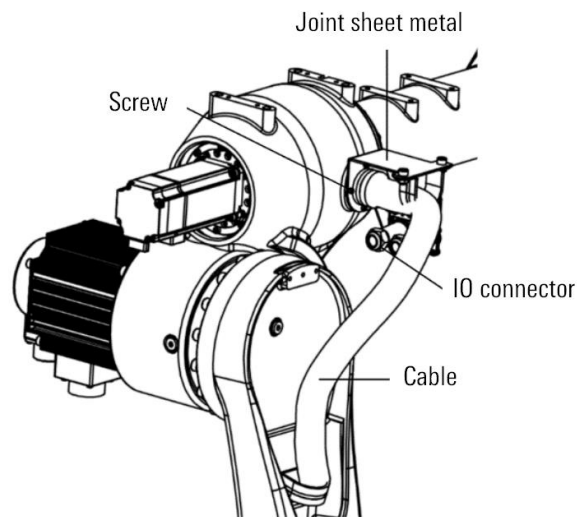

Figure 12-3 Elbow internal cable
- Step1. Remove elbow cable retaining plate as shown in Figure 12-3.